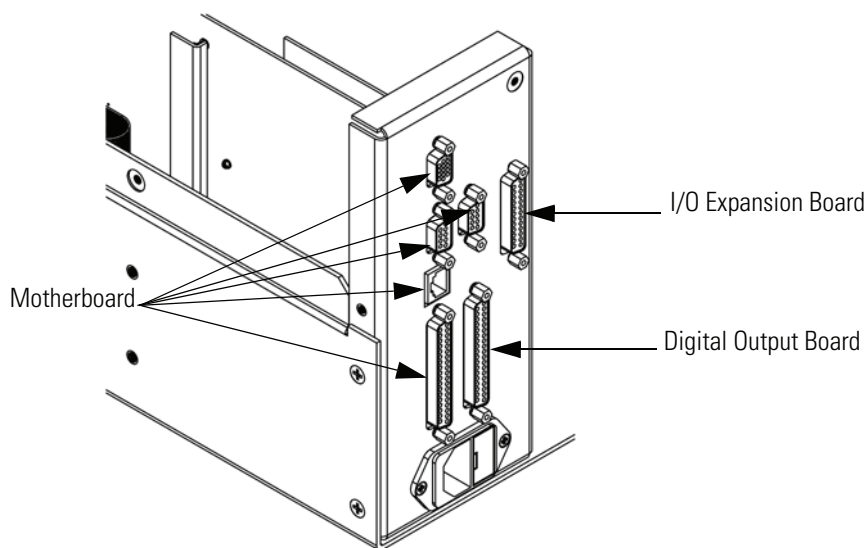

Figure 7-8. Rear Panel Board Connectors
3. Remove the two standoffs holding the I/O expansion board connector to the rear panel (Figure 7-8).
4. Using the nut driver, remove the two standoffs securing the board to the rear panel (Figure 7-8).